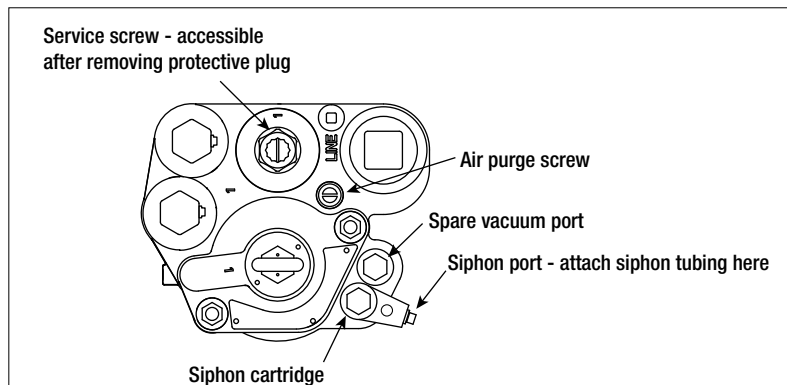

Figure 21. Siphon Connection
The siphon port for The Red Jacket STP is in a siphon assembly that fits into one of the two vacuum ports (see Figure 21). The port end can be swiveled after loosening the hex on top to accommodate the incoming siphon tube. Torque the siphon assembly to 15-30 ft-lbs (20-41 N•m) after positioning.
2. Open the air purge screw 2 - 3 turns counterclockwise (see Figure 21).